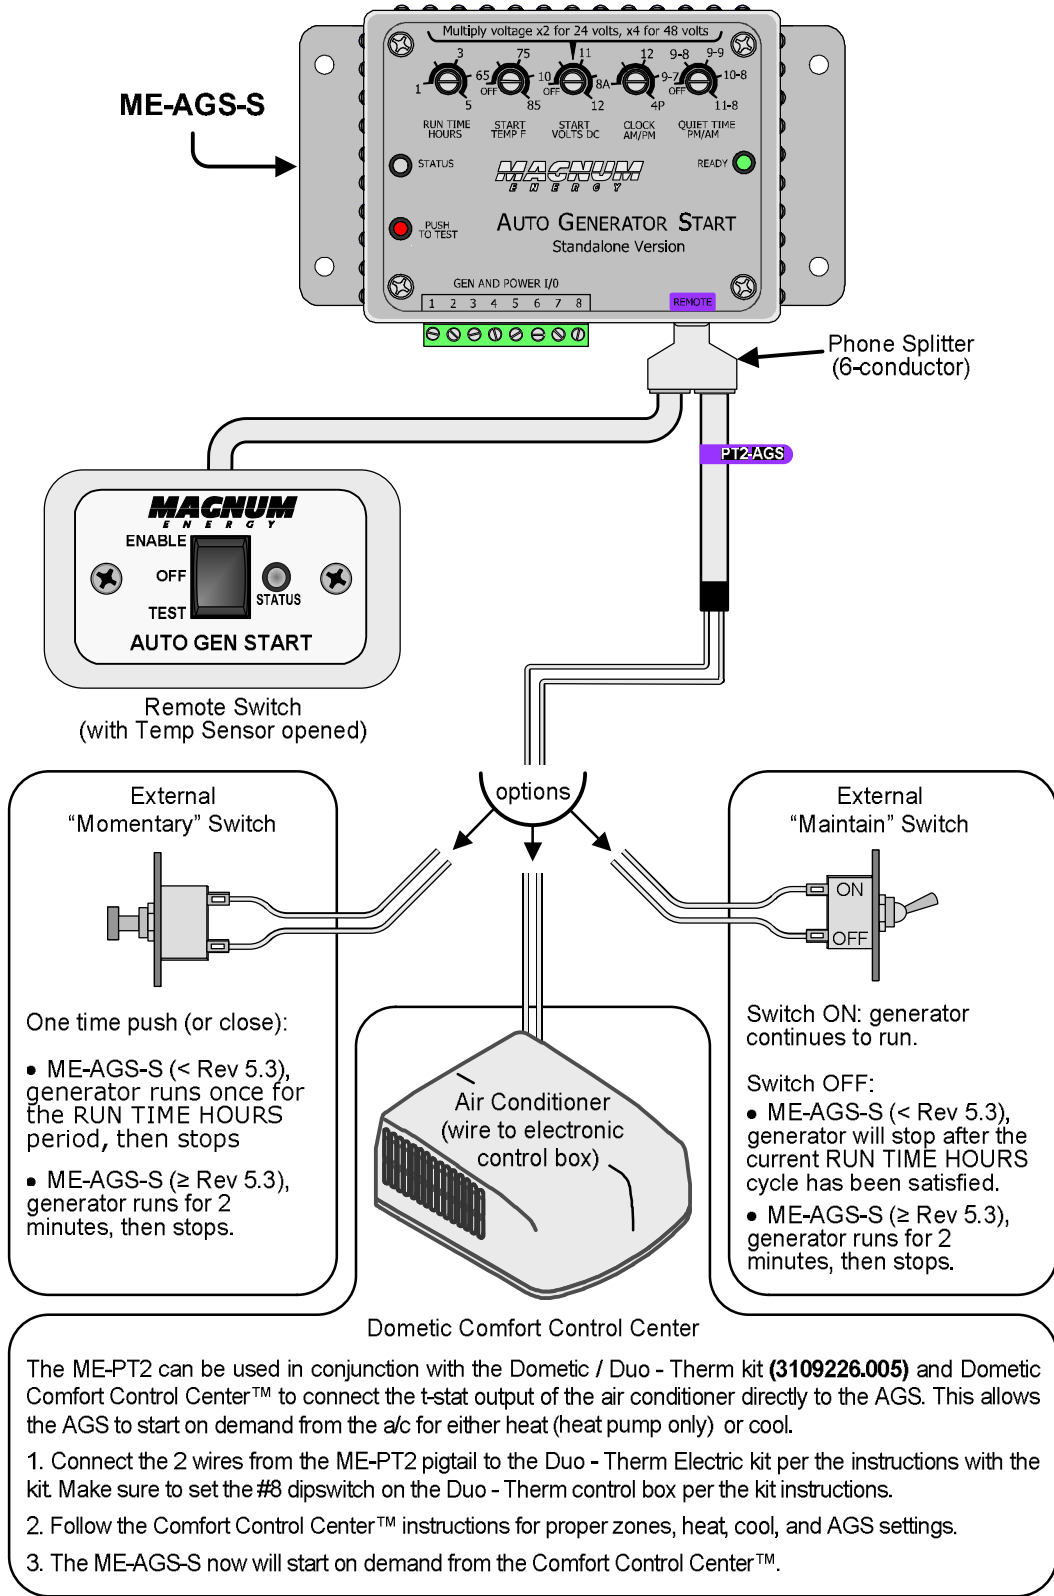

Figure 4, ME-PT2 to ME-AGS-S Installation
- To install the ME-PT2, refer to Figure 4 and the following steps: